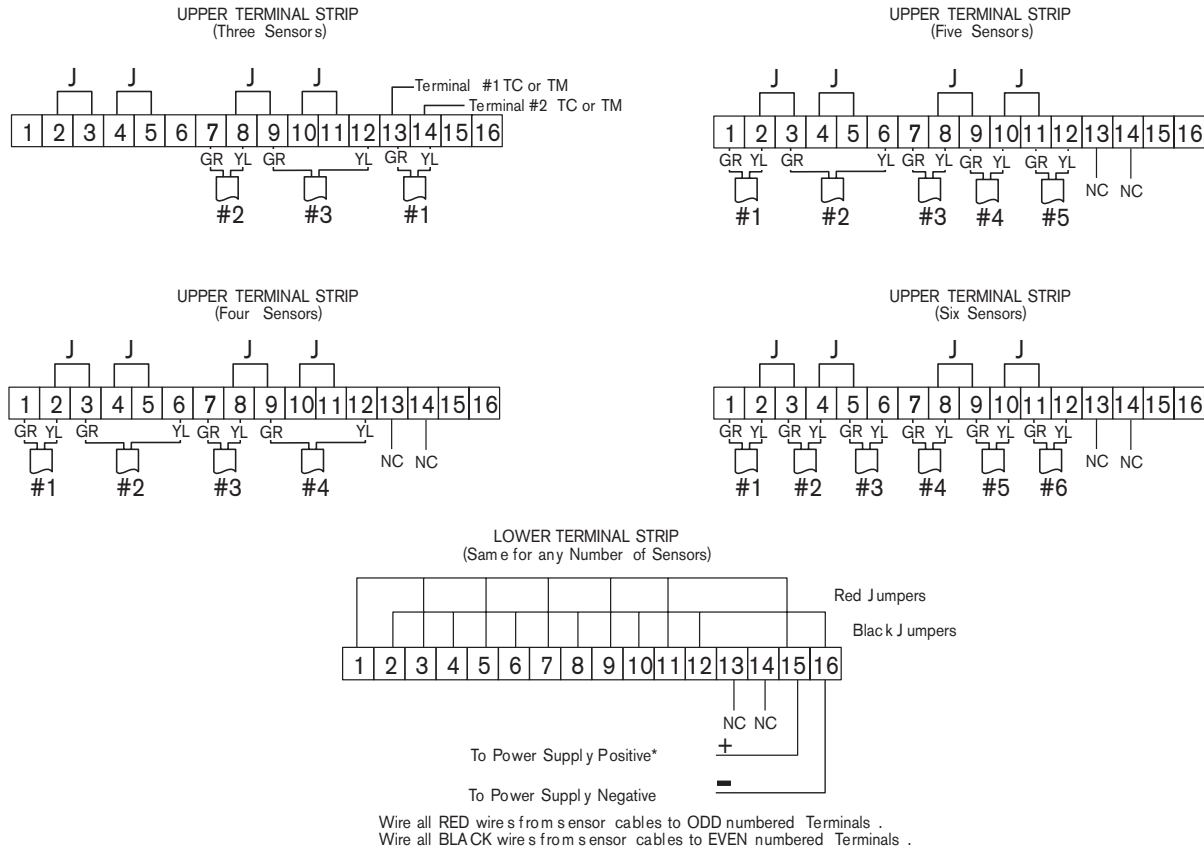

Figure 4
1. Use cables provided with the Tension Sensors to connect the Tension Sensors to the Wide Web Interface Unit (See Figure 4).
2. Use customer supplied 18 AWG cable to connect the positive lead of the power supply unit to Terminal 15 on the lower terminal strip. Connect the negative lead to Terminal 16 (See Figure 4).